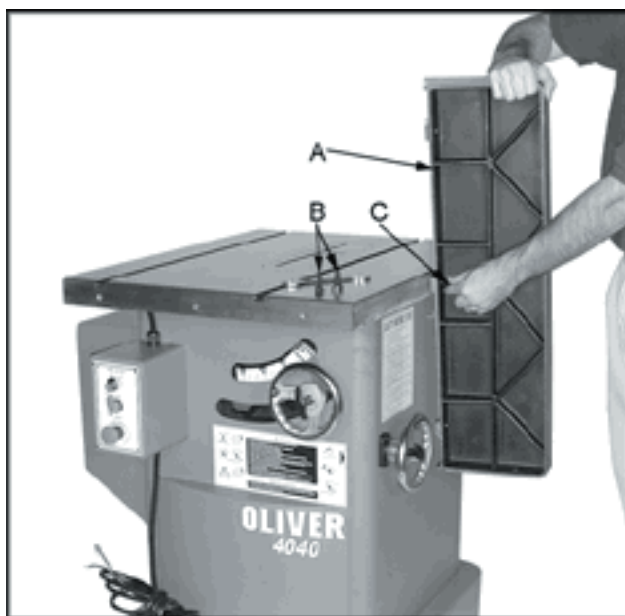

Figure 1
1. Attach extension wing (A, Figure 1) to table with three M10x30 hex head bolts, and three M10 lock washers (B, Figure 1). Snug but do not tighten. **Note:** Start with the center hole (C, Figure 1) to hold the wing in place.